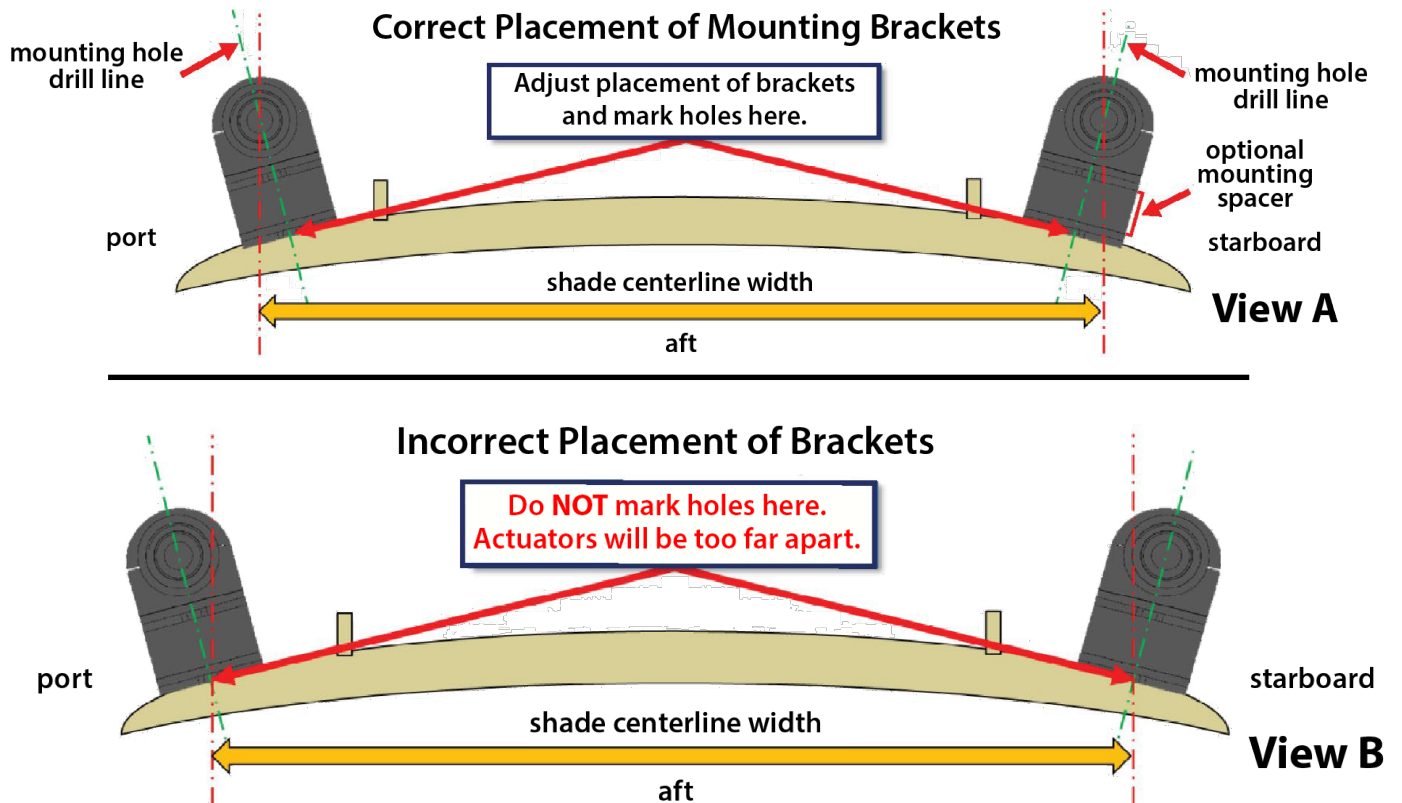

Fig.9
**A.** To determine mounting hole location for topside surface mount with curvature\*, see figure 9. The mounting holes will ultimately be drilled narrower than the shade centerline.